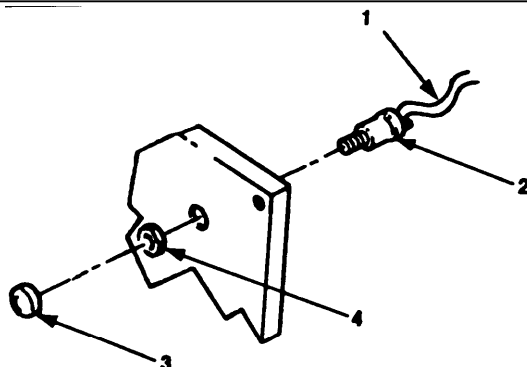

Figure 4-44. Oil Pressure Bypass and Push to Start Replacement
- a. Tag and disconnect wires (figure 4-44, 1) from switch (2).
- b. Unscrew boot (3) from switch (2).
- c. Remove nut (4) from switch (2).
- d. Remove switch (2).
- a. Install switch (2).
- b. Install nut (4) on switch (2).
- c. Thread boot (3) on switch (2).
- d. Connect wires (1) on switch (2) and remove tags.